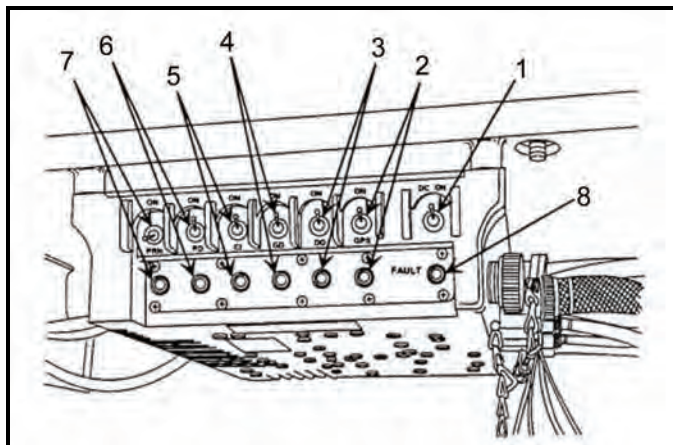

Figure 15-3. Power distribution assembly.
15-16. The power distribution assembly (PDA, shown in Figure 15-3) accepts direct current (DC) and alternating current (AC) to power the MFCS components. It filters vehicle power through a DC-to-DC power system that isolates the MFCS components from fluctuations in vehicle power, including starting the vehicle. It also protects the MFCS components against reverse polarity and power surges.
15-17. The Power On switch (1, Figure 15-3) turns the PDA on and off for DC power only.
15-18. This switch (2, Figure 15-3) distributes power to the precision lightweight Global Positioning System receiver (PLGR) on the M1064 only. The LED turns green when the switch is on.
15-19. This switch (3, Figure 15-3) distributes power to the driver's display (DD) on the M1064 only. The LED turns green when the switch is on.
15-20. This switch (4, Figure 15-3) distributes power to the gunner's display (GD) on the M1064 only. The LED turns green when the switch is on.
15-21. This switch (5, Figure 15-3) distributes power to the CI. The LED turns green when the switch is on.
15-22. This switch (6, Figure 15-3) distributes power to the pointing device (PD) on the M1064 only. The LED turns green when the switch is on.
15-23. This switch (7, Figure 15-3) distributes power to the printer, or in an emergency, the printer port can be used to power the PD. The LED turns green when the switch is on. This switch is not used in this application except in an emergency situation.
15-24. This indicator (8, Figure 15-3) illuminates with amber light and may flicker if the PDA malfunctions.